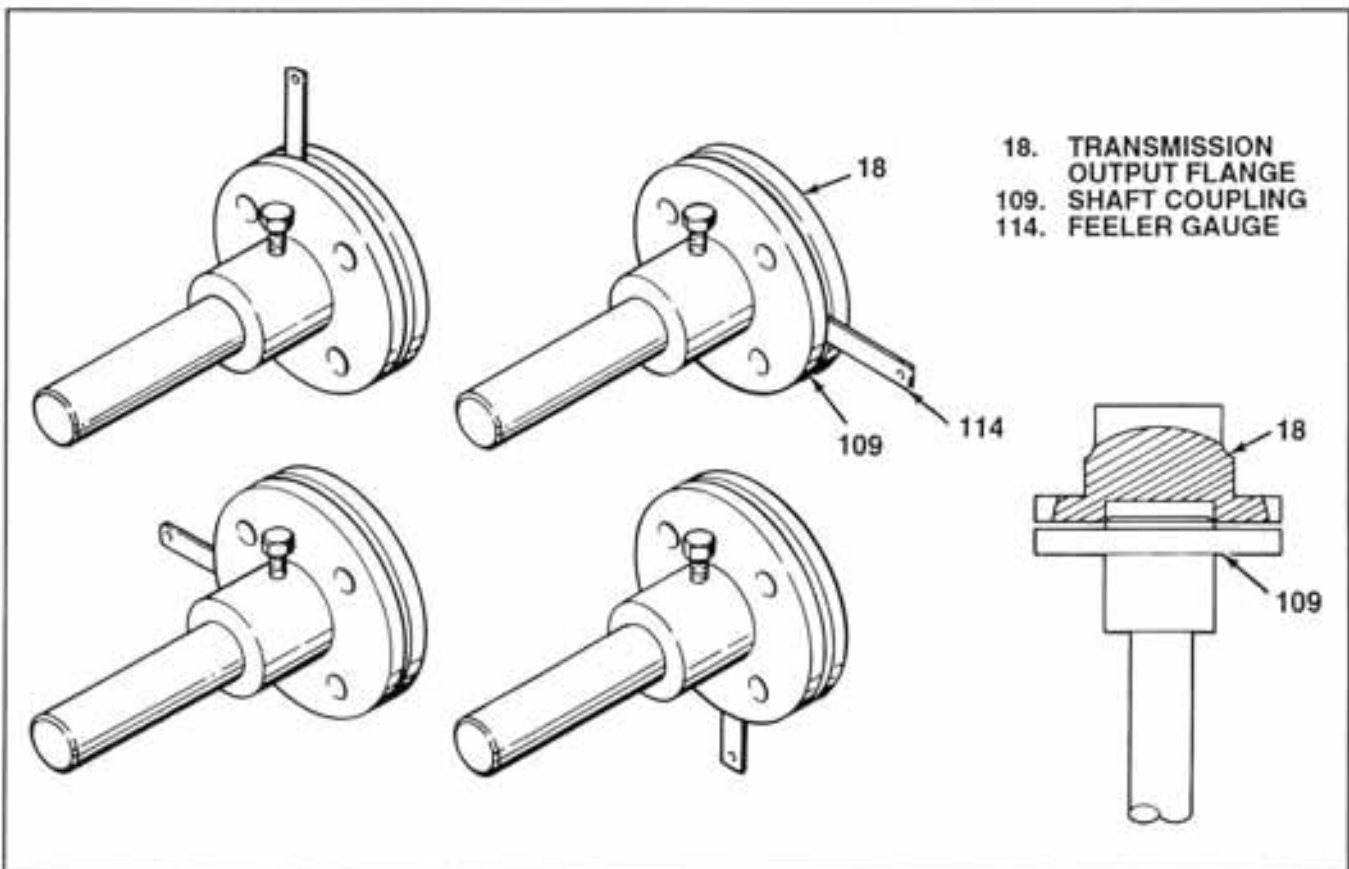

Figure 2-4. Propeller Shaft Alignment
2-16. PROPELLER SHAFT ALIGNMENT CHECK (see figure 2-4) The propeller shaft alignment must be checked whenever any of the following has taken place:
1. With boat in water, remove coupling nuts and bolts and slowly separate shaft coupling (109) from transmission output flange (18). As coupling leaves flange locating boss, check that there is no sudden radial (side to side or up or down) movement. Check that no side loading is required to remate the coupling with the flange boss.
2. With coupling (109) in flange (18) locating boss, draw flanges together using hand pressure only. Using suitable feeler gauge (114), check the clearances between the flanges at four locations, 90 degrees apart. (see figure 2-4) Clearance measurements must not vary from each other by more than 0.003 in. (.076 MM).